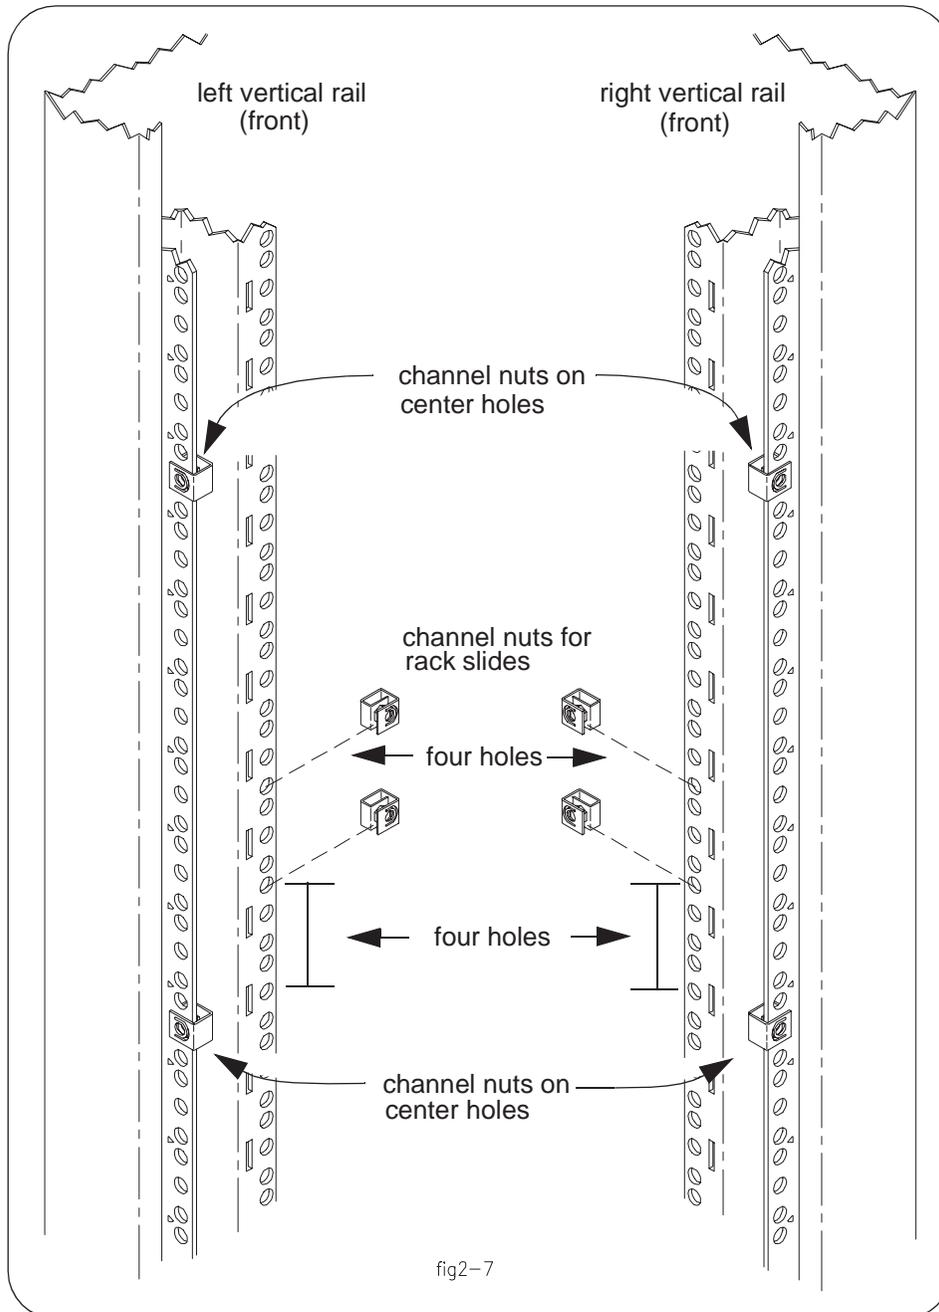

Figure 2-7. Positioning the Rack Slides (using the Standard Adapter Kit).
4. From the bottom channel nut inserted in Step 3, count up four holes. Slide a channel nut over the corresponding hole on the inside vertical rail (Figure 2-7). Install a second channel nut on the inside rail four holes above the first nut. Repeat for the other rail. Install channel nuts on the corresponding holes on the rear inside rails.